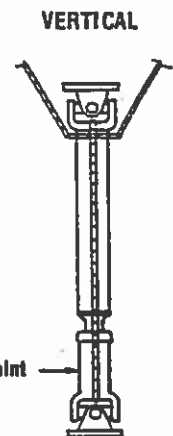

Fig. 4
- For VERTICAL INSTALLATIONS additional protection must be provided in order to eliminate the possibility of drive shaft from coming apart at the Spline connection (SLIP JOINT). Fig. 4 CAUTION: The dust cap and spline seal could be damaged by incorrectly hanging the drive shaft in a vertical position.